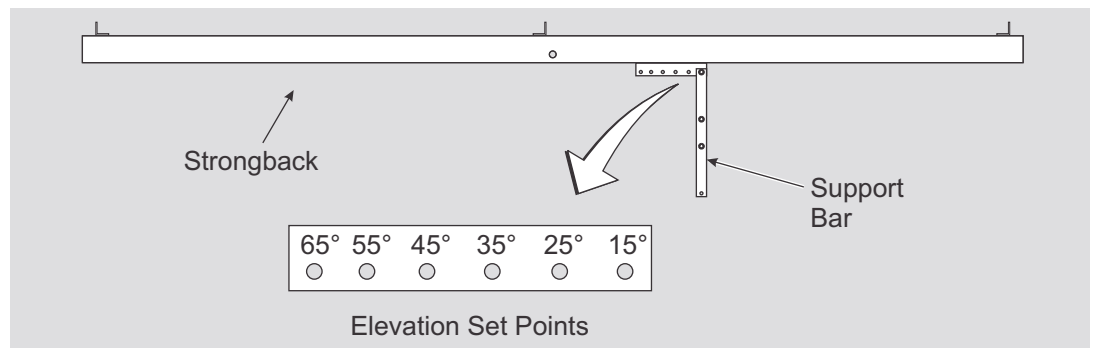

Figure 7-2: Setting the Tilt Angle
- B. Tilt the rack to the desired elevation angle (15°, 25°, 35°, 45°, 55°, or 65°) and re-attach the Support Bar to the Strongback placing the 3/8" or 1/2" hardware in the appropriate hole matching the desired elevation. **Torque to 32-34 ft.-lbs. for 3/8" hardware or 72-80 ft.-lbs. for 1/2" hardware.** (See Figure 7-2)